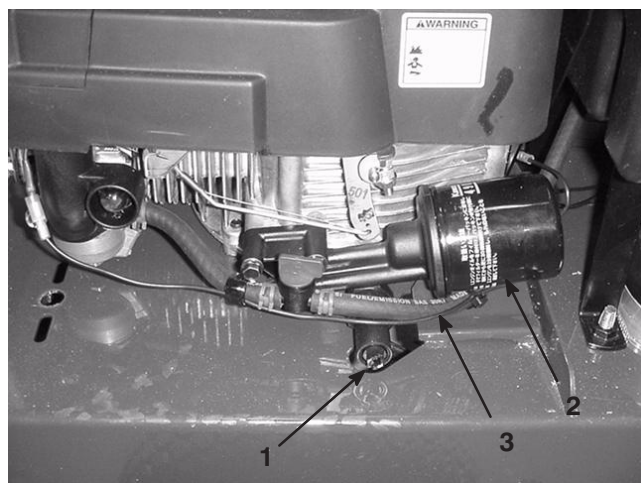

Figure 39
4. Place a suitable drain pan under the drain hole in the line painter (Fig. 39).
Replace the oil filter (Fig. 39) after every 100 operating hours or yearly, whichever comes first.
4. Disconnect the fuel line (Fig. 39) by loosening the tube clamp at the carburetor.